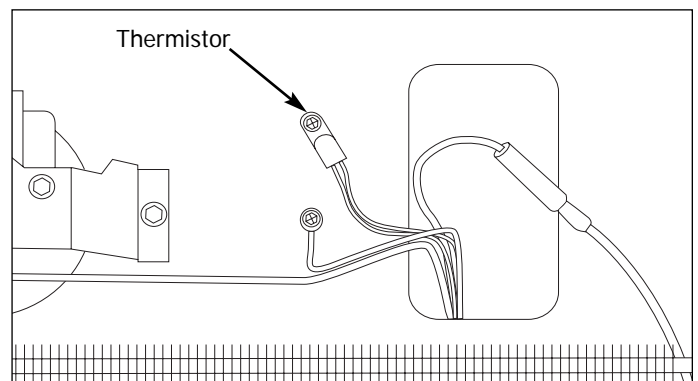

Figure 5-18. Defrost Thermostat Removal
2. Extract the phillips screw securing the thermistor to the back wall. (See Figure 5-18)